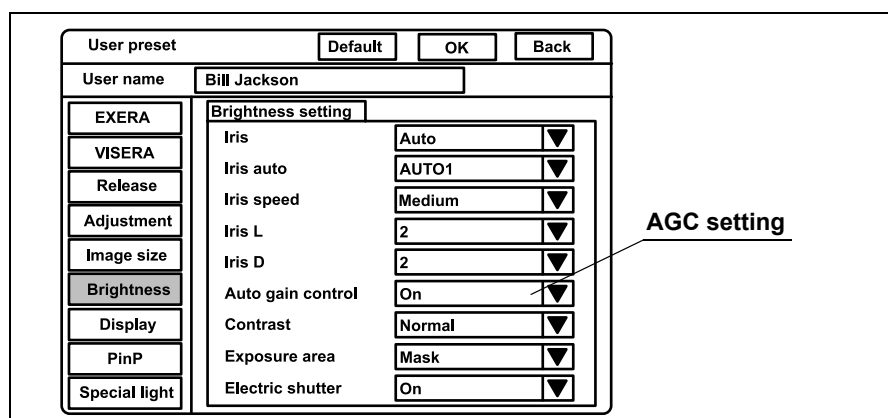

Figure 9.27
1. Click “▼” of “Auto gain control” (see Figure 9.27). The setting values ON and OFF appear in the pull-down menu.